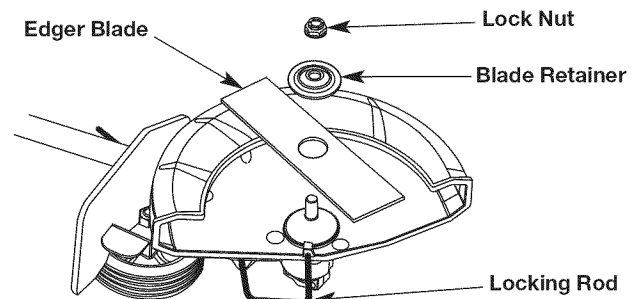

Fig. 9
4. Remove the locking rod. Remove the lock nut, blade retainer and edger blade (Fig. 9). Keep the lock nut and blade retainer for installing the new edger blade.
5. Install the new edger blade, blade retainer and lock nut (Fig. 9).